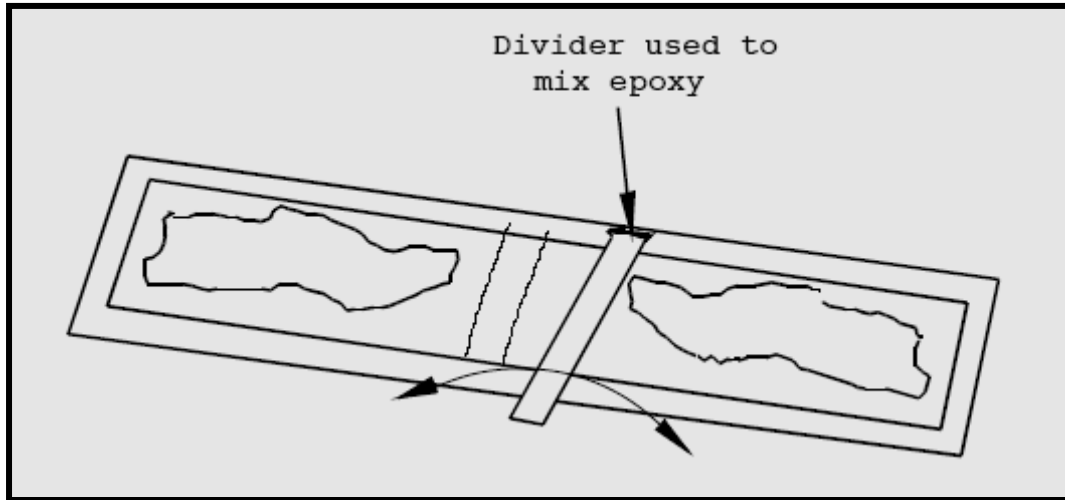

Figure 2-102. Mixing the Epoxy
**Step 2** - Remove the divider from a 2-part epoxy package and mix the two parts together until the epoxy is a smooth uniform color (see figure 2-102). The epoxy can be mixed by either repeatedly rolling or gently sliding the divider over the package.